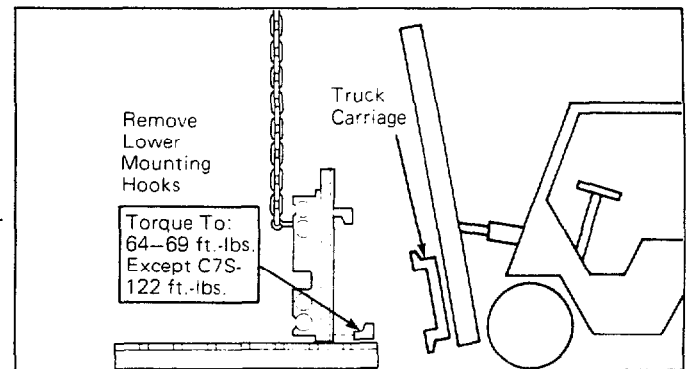

Figure 4. Position for Installation
1. If the attachment was shipped with the arms installed, use a hoist chain to set the clamp vertical. If the arms have not been mounted then install eyebolts and attach a hoist chain to each eyebolt. See Figure 4.
3. Position the truck close enough so that the clamp hoses on the junction block can be connected to the check valve on the clamp. See Figure 4.